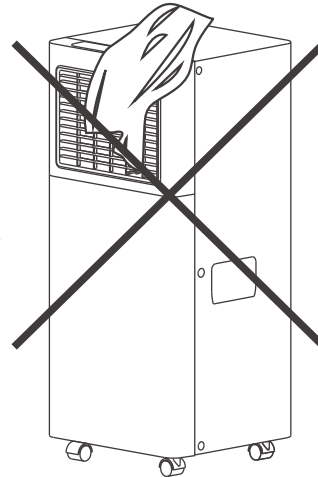

Fig.9
- Do not block the air inlet or outlet of the appliance. Reduced air flow will result in poor performance and could damage the unit (fig. 9).